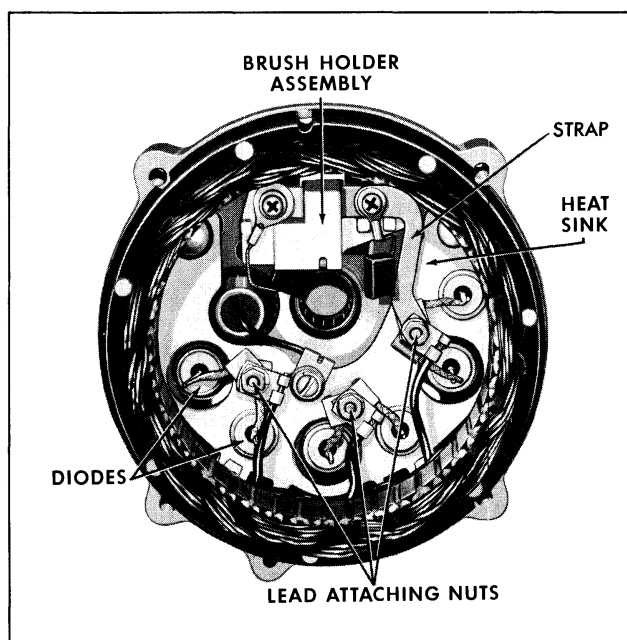
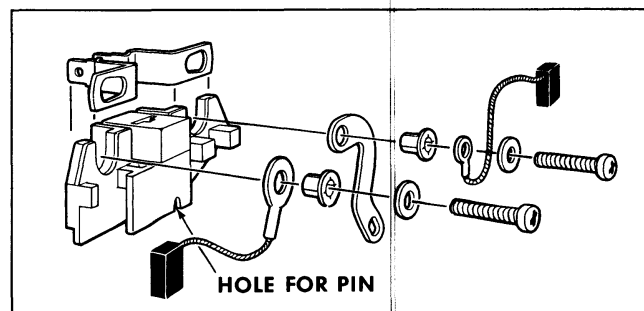

Fig. 11-17 Slip Ring End Frame
Fig. 11-19 Brush Holder Assembly
1. Remove 3 stator lead attaching nuts and washers (Fig. 11-17).
1. Remove two brush holder screws and stator lead to strap attaching nut and washer (Fig. 11-17).
2. Remove brush holder assembly and brushes. Carefully note stack-up of parts (Fig. 11-19) for reassembly.
8. Attach the brush holder assembly into the end frame, noting carefully the stack-up of parts as shown in Fig. 11-19. Allow the wood or toothpick to protrude through the hole in the end frame and install stator lead to strap attaching nut and washer (Fig. 11-17).